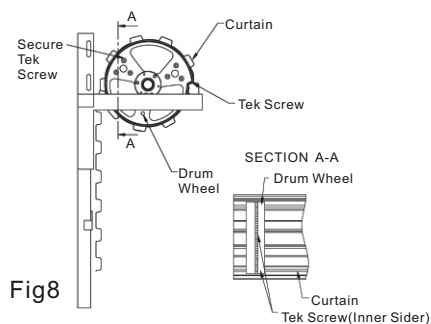

Fig8
- w. Final Security -Fully close the door, mark the corrugation just before the Curtain leaves the top roll, drill through the Curtain and the Drum wheel rim, and apply a 'pop rivet' or self-tapping screw. This must be done at both ends of the door (Fig. 8).